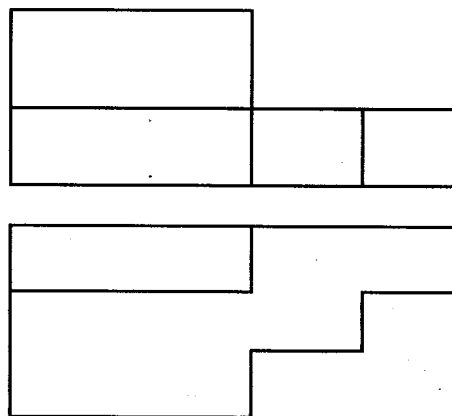

Figure 3
6. Figure 3 shows two views of a block drawn in first angle projection. In good proportionality sketch the block in oblique projection.